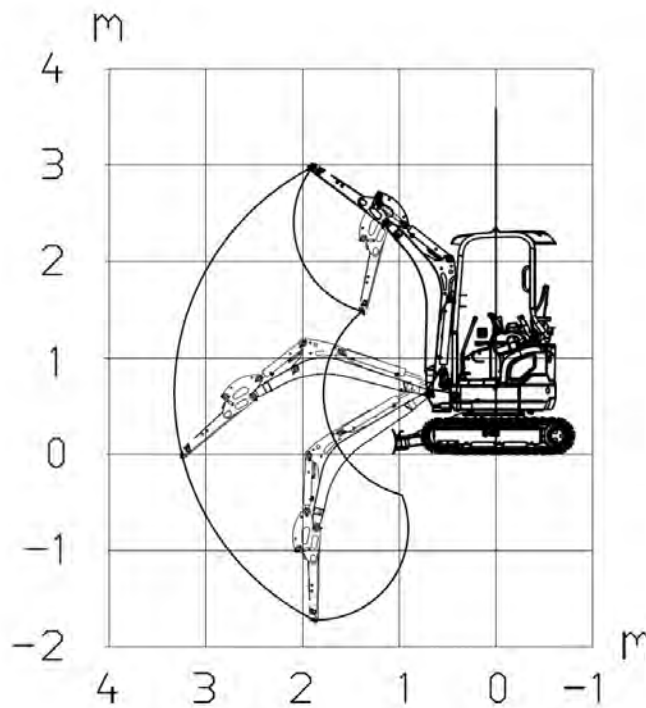

Figure 1
- Lift scope figure of excavator is shown as the following Figure1: